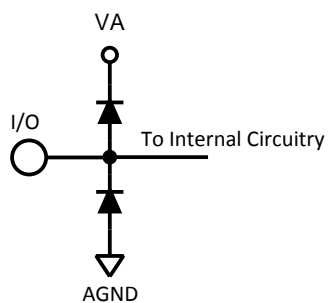

Figure 4.
(1) The analog inputs are protected as shown in Figure 4. Input voltage magnitudes beyond the supply rails will not damage the device, provided the current is limited per Note 4 under the Absolute Maximum Ratings Table. However, input errors will be generated if the input goes above V_A and below AGND.
(2) Test limits are ensured to TI's AOQL (Average Outgoing Quality Level).
(3) Typical figures are at $T_A = 25^\circ C$, and represent most likely parametric norms at the time of product characterization. The typical specifications are not ensured.